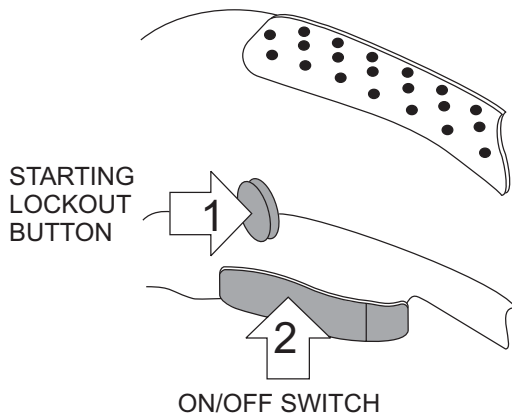

Figure 4. ON/OFF Switch
1. To start, press the starting lockout button then press the ON/OFF switch (Figure 4). The integrated electronic controls will start the machine in a controlled speed.